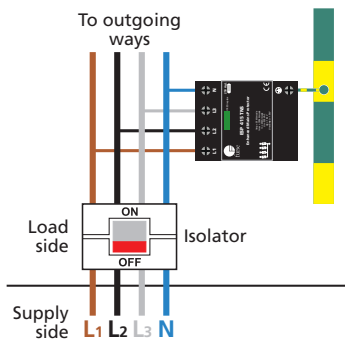

Figure 1: ESP 415/XXX mounted within a distribution board connected to the incoming supply on the load side (ie downstream) of the isolator.
The ESP 415/XXX Protector will be installed at a main power distribution board, either inside it (Figure 1) or right next to it in an enclosure (Figure 2).
- (i) on the load side of the incoming isolator (Figure 1).